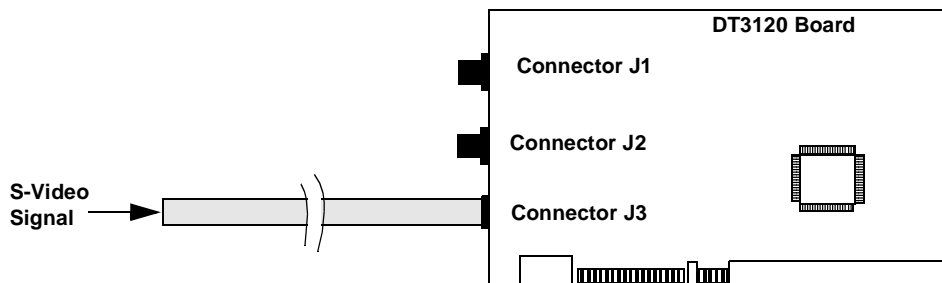

Figure 4: Connecting an S-Video Signal to the DT3120 Board
- **S-Video input** – Uses the Y/C video format. Attach an S-video input to connector J3 on the DT3120 board, as shown in Figure 4.